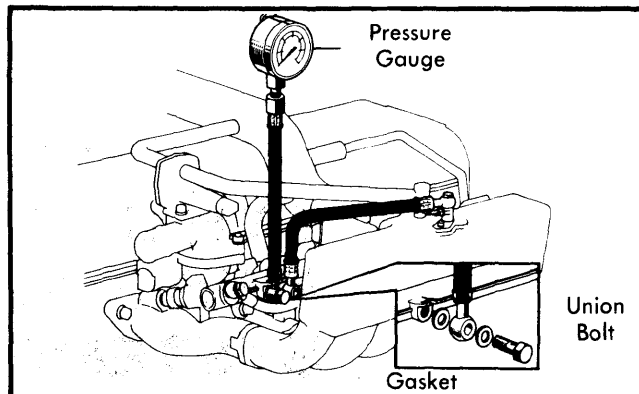

Fig. 3 Pressure Gauge Installation
3) Install gasket, pressure gauge, another gasket and union bolt to delivery pipe as shown in Fig. 3. Wipe off any spilled fuel. Reconnect negative battery cable. Start engine.